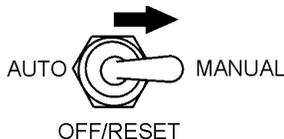

Figure 42. Auto-Off/Reset Manual; Switch (Manual Position)
1. Place the **Auto-Off/Reset Manual Switch** in the **MANUAL** position to start the engine (Figure 42).